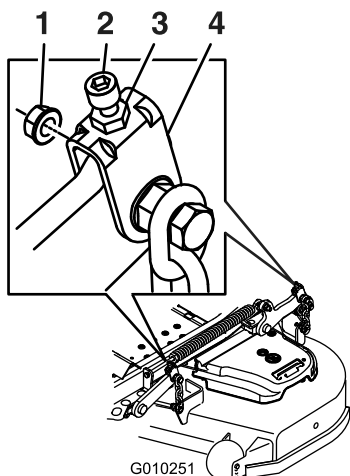

Figure 91
10. If needed, loosen the whizlock nut on the side of the yoke and the jam nut on top (Figure 91).
17. Fine tune the screw adjuster by turning it to get 8.3 mm (3-1/4 inches) height (Figure 91).